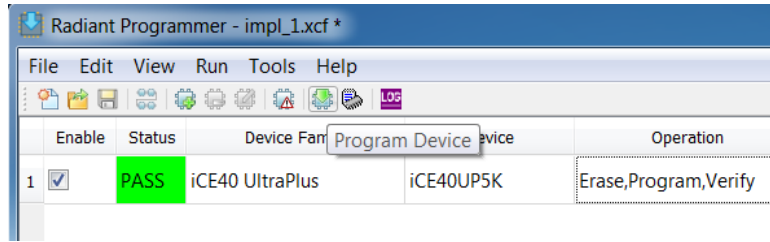

Figure 3.5. Program Device Button in Radiant Software
- Click the **Program Device** icon from the Radiant Programmer toolbar (Figure 3.5) to download the bitstream file.